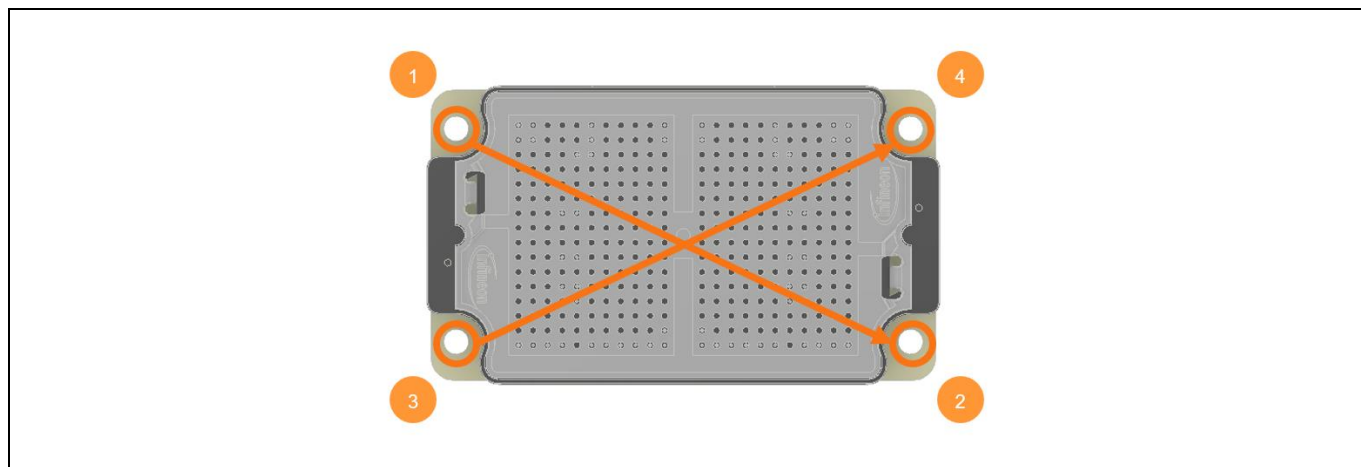

Figure 5 Screw sequence for module mounting
For optimal thermal contact of the module with the heat sink, use the following procedure (recommended) when tightening the screws - 1 to 4 for Easy HD3 modules (see Figure 5).
3. Screw in the screws to about half their length. Tighten all the screws crosswise using a torque of approximately 0.5 Nm in the sequence shown in Figure 5 (screw no. 1 - 2 - 3 - 4).